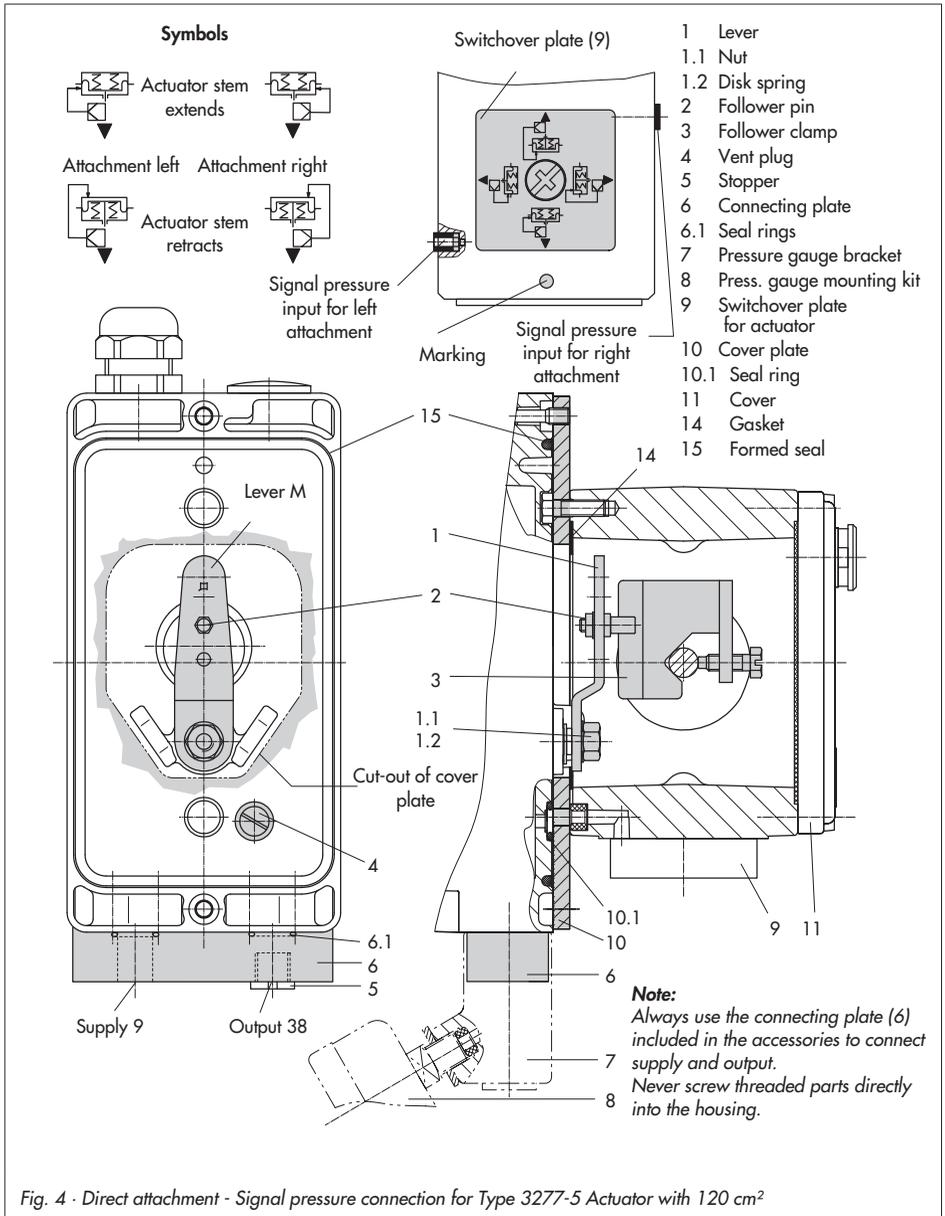

Fig. 4 - Direct attachment - Signal pressure connection for Type 3277-5 Actuator with 120 cm2
1. Mount connecting plate (6) or pressure gauge bracket (7) with pressure gauges onto the positioner, making sure both seal rings (6.1) are seated properly.
2. Remove vent plug (4) on the back of the positioner and close the signal pressure output "Output 38" on the connecting plate (6) or on the pressure gauge bracket (7) with the stopper (5) included in the accessories.
3. Place follower clamp (3) on the actuator stem, align and screw tight so that the mounting screw is located in the groove of the actuator stem.
4. Mount cover plate (10) with narrow side of the cut-out opening (Fig. 4, left) pointing towards the signal pressure connec-